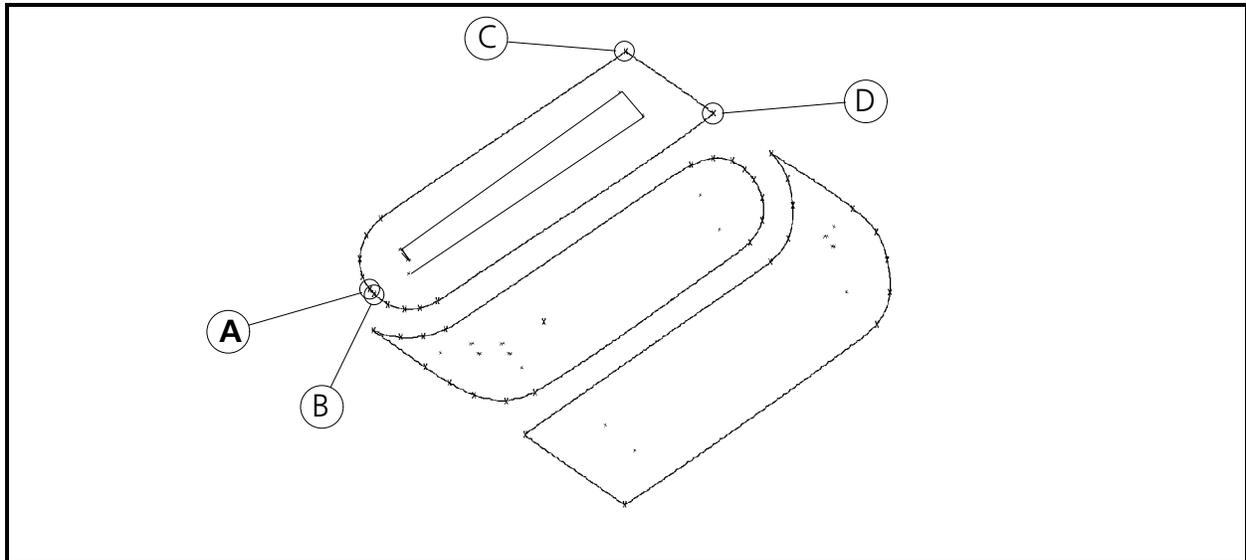

Figure 6-75
5. Go to the lower left area of the top section of the logo and enter a Mk1 at point A as shown in Figure 6-75. This first Mk1 (identifying the beginning of the first line of stitches in the fill) will be slightly offset from the exact mid-point of the arc in that shape.